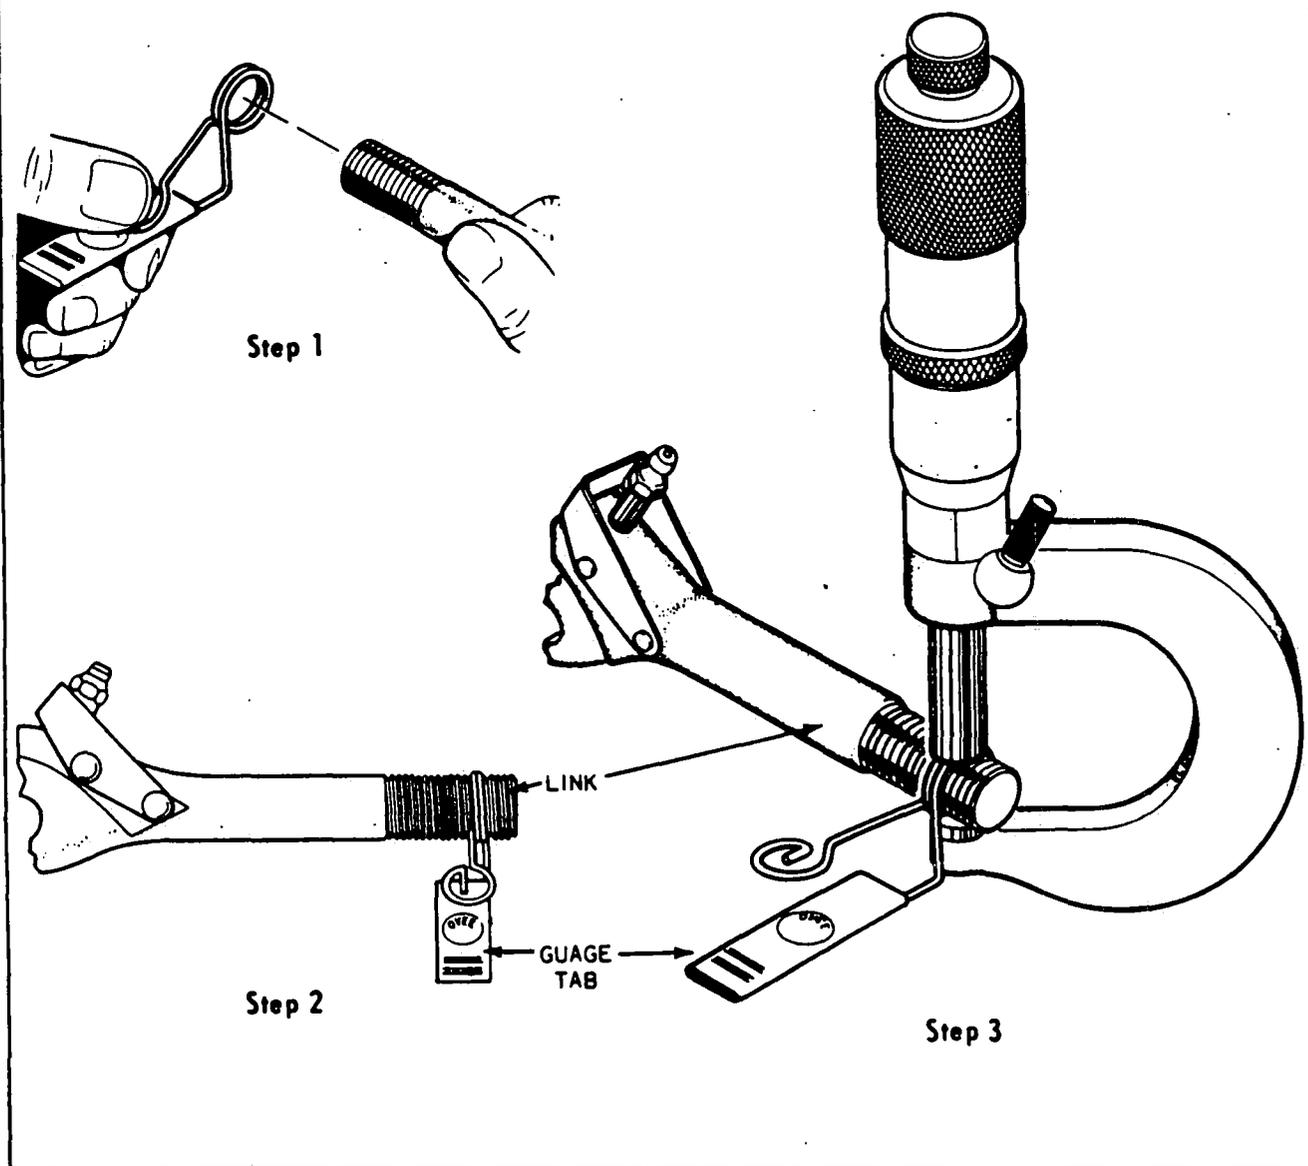

Figure 7-8c. Main Gear Side Brace Link Tolerance
7-23A. INSPECTION OF MAIN GEAR SIDE BRACE LINKS AND ROD END BEARINGS. (Refer to Figure 7-8c.)
1. It will be necessary to obtain a special O-Vee gauge (refer to table included in Figure 7-8c for the specific size gauge to order). This gauge can be purchased from the O-Vee Gauge Company, P.O. Box 43271, Los Angeles 43, California, and a micrometer (see sample order below).
2. The advantage of using the O-Vee gauge is in its simple three steps, see Figure 7-8c.
4. If the link is worn less than the tolerances given in the table with Figure 7-8c, it must be replaced.